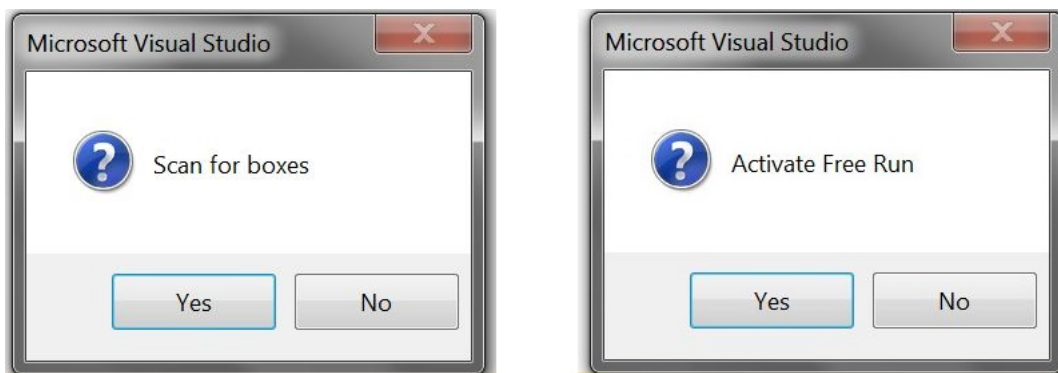

Figure 21. TwinCAT3 Master Scan for Slaves and Free Run Activation
- (b) Click “OK”, then click “Yes” to the following two popups (see Figure 21).